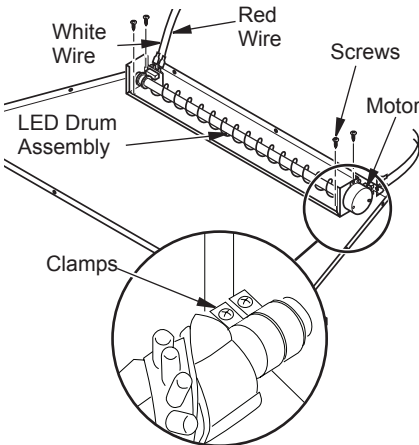

Figure 16 - Flame Generation LED Drum Assembly
3. Remove screws from bottom panel to remove assembly (see Figure 16).
4. If motor on assembly fails, loosen clamps (see Figure 16). Remove screws from motor. Hold universal joint while removing motor and discard.